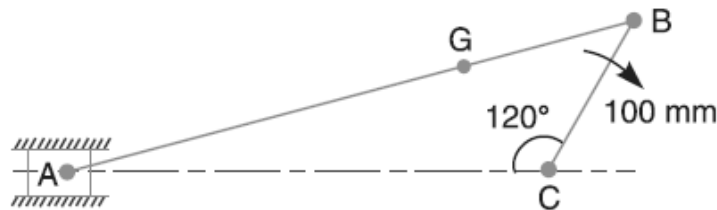

Figure 1
3. An engine mechanism is shown in Fig. 1. The crank $CB = 100$ mm and the connecting rod $BA = 300$ mm with centre of gravity G , 100 mm from B . In the position shown, the crankshaft has a speed of 75 rad/s and an angular acceleration of 1200 rad/s². Find: 1. velocity of G and angular velocity of AB , and 2. acceleration of G and angular acceleration of AB 3. Velocity and acceleration of the slider A .